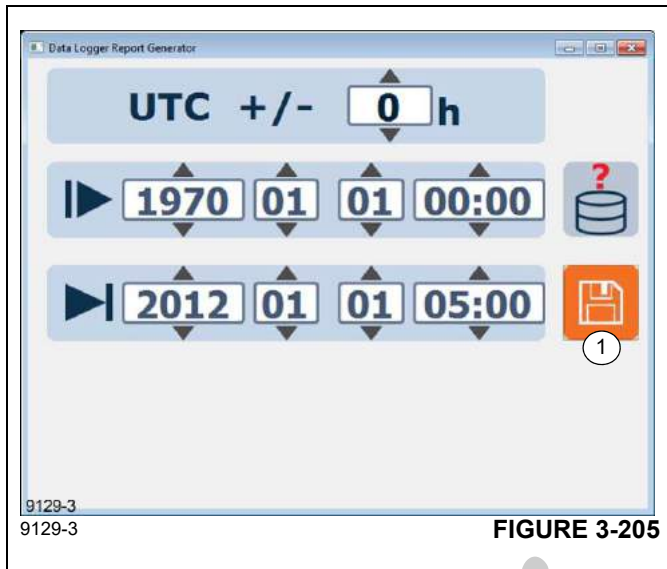

FIGURE 3-205
6. Choose the time span for the report (Figure 3-205), the default is the maximum amount of time possible. After the report is generated the disk save icon (1) will be highlighted. Select the Save Icon and choose the directory to save the report to (Figure 3-205).